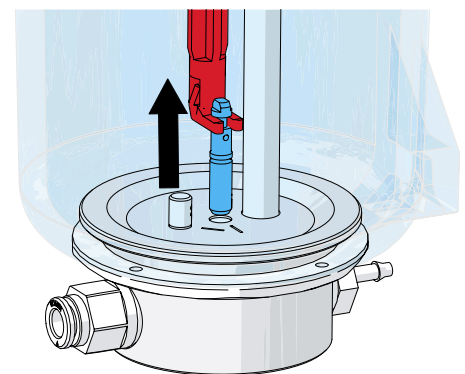

Fig. 12
- ⇒ Hold the dosing nozzle with the tool and pull upwards (Fig. 12).